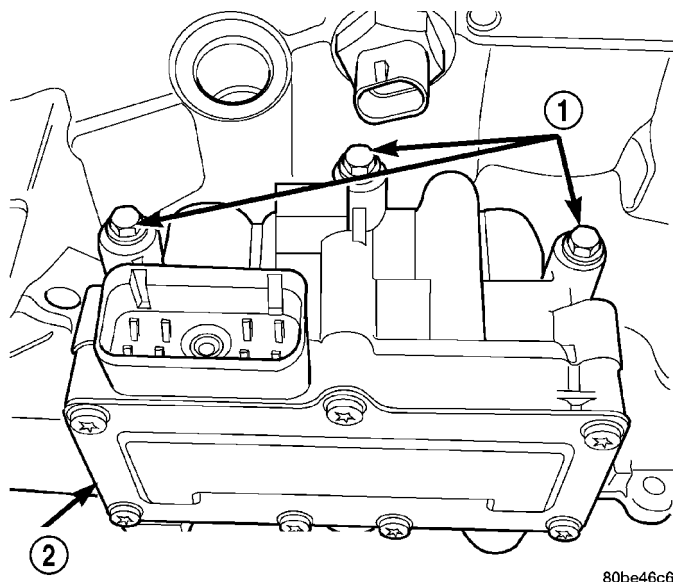

Fig. 158 Solenoid Pack-to-Transaxle Bolts
(69) Install and tighten solenoid/pressure switch assembly-to-transaxle case bolts to 12 N·m (110 in. lbs.) (Fig. 158).